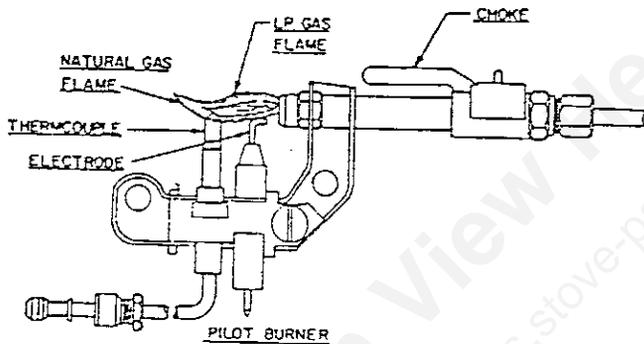

FIGURE 4
PILOT ADJUSTMENT: There is no adjustment to the pilot. The pilot flame should just touch the top of the thermocouple. If the pilot flame is low and does not hold the gas control open, check the gas line pressure to the heater and/or check for dirt or lint in the pilot. If trouble still exists after the line pressure and blockage are checked, then the pilot must be replaced. See Figure 4 on Page 10.
2. Visually check the burner and pilot flame before each heating season. See Figures 4 & 5 on Page 10 for details. Remove the burner, if required, to clean rust and foreign matter from the slots and obstructions such as cob webs and mud daubers from the venturi opening.